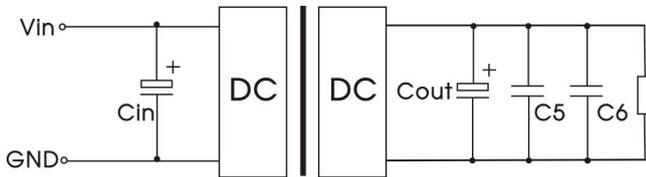

Fig. 2
Note: ①By measuring method is used for Ripple and Noise test, please refer to Fig. 2. for recommended circuit.
All the DC-DC converters of this series are tested before delivery using the recommended circuit shown in Fig. 2. Input and/or output ripple can be further reduced by appropriately increasing the input & output capacitor values C_{in} and C_{out} and/or by selecting capacitors with a low ESR (equivalent series resistance). Also make sure that the capacitance is not exceeding the specified max. capacitive load value of the product.